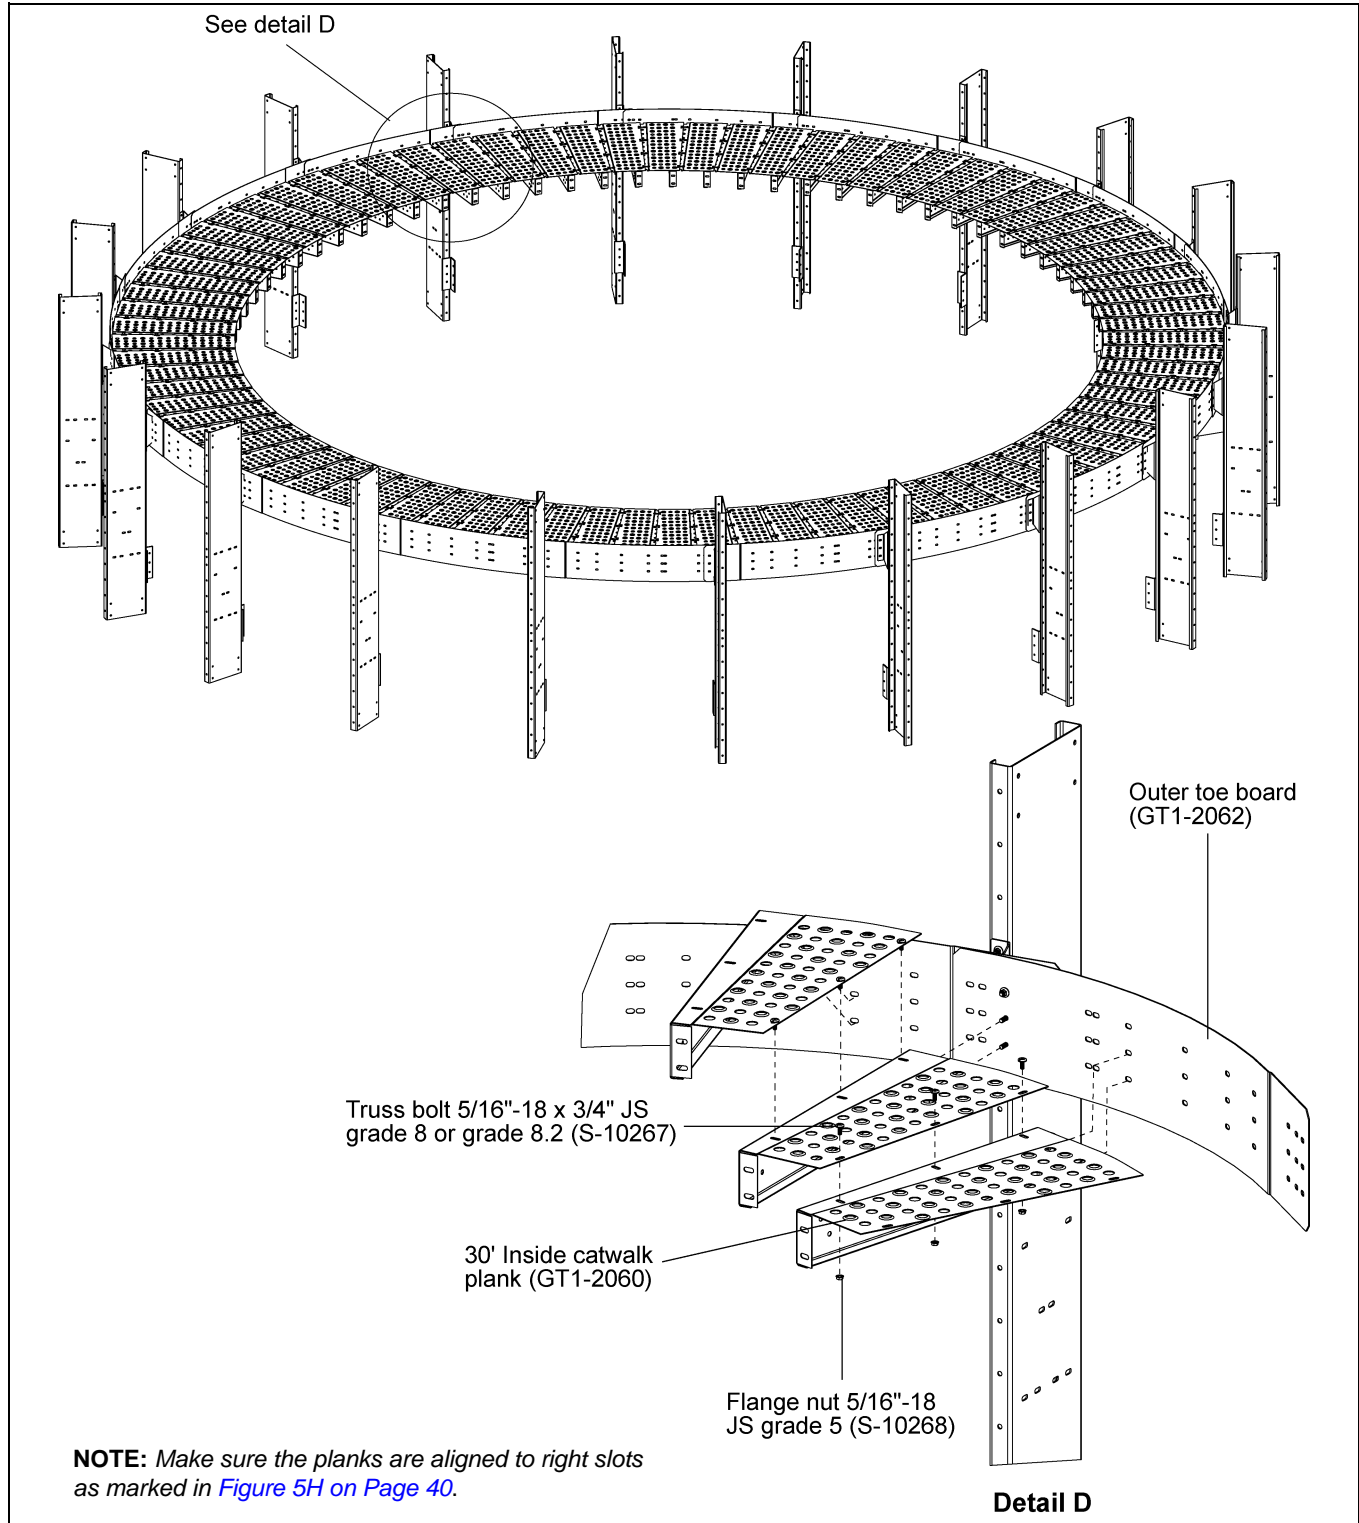

Figure 5F
1. Install the planks (GT1-2060) to the outer toe board (GT1-2062) using 3/8"-16 x 1" JS grade 8 or grade 8.2 bolts (S-7485) and 3/8"-16 ZN grade 5 nut (S-968). (See Figure 5F.)